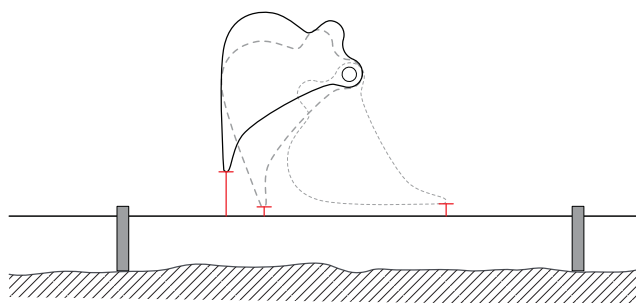

Figure 81: String Line Verification - Bucket
3. Curl only the bucket in and out in various positions, and measure the distance from the string line to the bucket teeth with measuring tape (Figure 81).